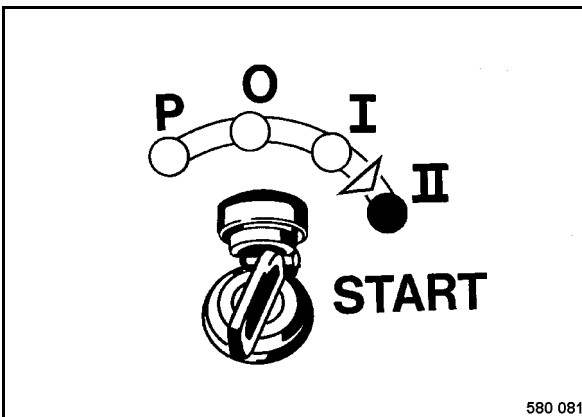

Fig. 31
- Turn the ignition key (Fig. 31) to position "II", the starter will crank the engine.